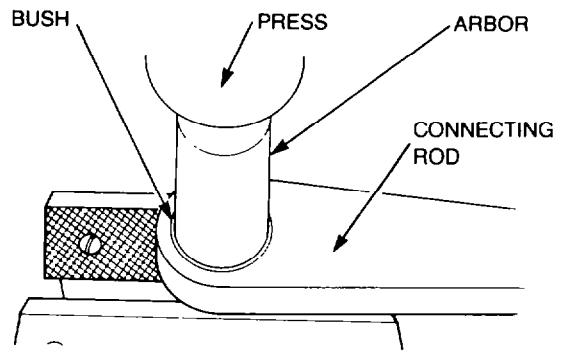

Figure 5 — Connecting Rod Bush — Removal
- j. Using a suitable arbor, press out the bush from the connecting rod (see Fig. 5).